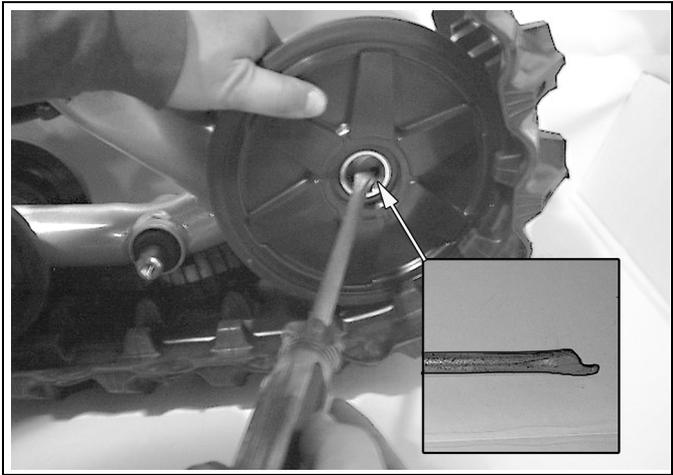

Figure 17
- If working on rear track systems, re-install the 132-mm wheels (refer to Figure 17).